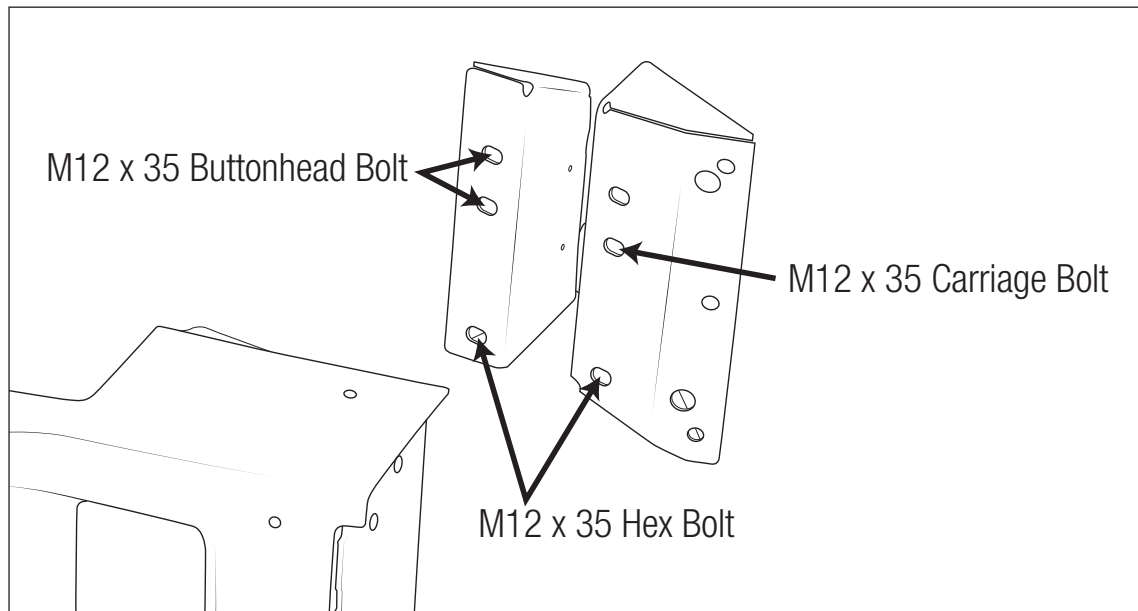

Figure 11
3. Install the remaining ten bolts and hand tighten. There should now be six bolts in each side of the Center Section (fig. 11).